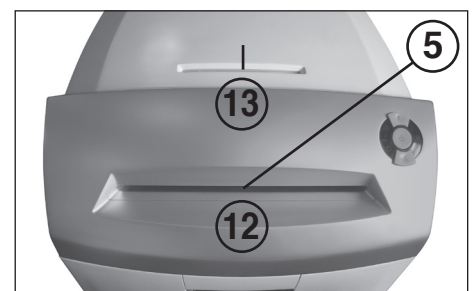

fig. 3
#### 5 = Light barrier (forwards running) (fig. 3)
### 12 = Paper feed slot (fig. 3)
### 13 = Safety feed slot (fig. 3)
Feed **paper** into the cutting mechanism through the paper feed slot (12) (Fig. 3).
Feed **data carriers** (CD, DVD or credit card) into the cutting mechanism individually into the separate safety feed slot (13) (Fig. 3).